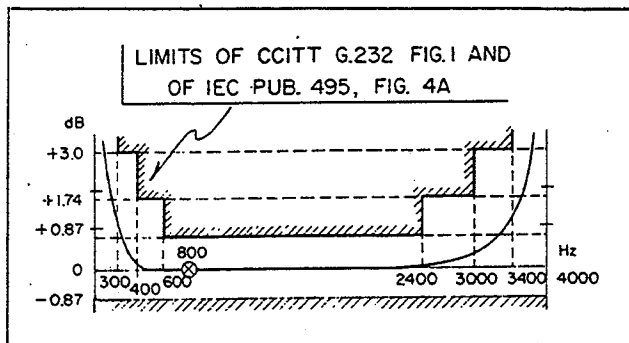

Figure 1-4. Frequency response, RFL 9505 Programmable Powerline Carrier System
**Frequency Response:** See Figure 1-4.